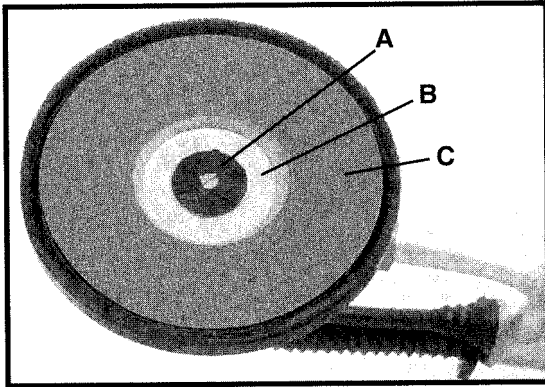
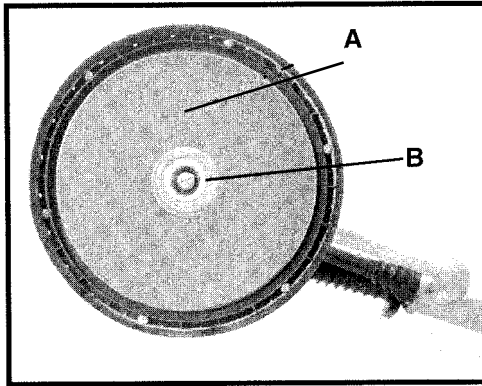

Fig. 9
Fig. 10
2. Rotate the pad retaining nut (A) Fig. 9 counterclockwise and remove.
3. Lift off the large metal washer (B) Fig. 9, and the abrasive pad (C) Fig. 9.
NOTE: When the abrasive pad (C) Fig. 9 is lifted off the Sander, the abrasive back-up disc (A) Fig. 10 is exposed. Please note that this back-up disc is also covered with an abrasive material, and is used ONLY to prevent “slippage” between the back-up disc and the foam-backed abrasive pad. it is NOT suitable for use as a sanding abrasive.
Position the new abrasive pad to the back-up disc, and center the hole of the disc on the hub (B) Fig. 10 of the back-up disc.
5. Position the large metal washer (B) Fig. 9, and the retaining nut (A) Fig. 9, to the Sander.